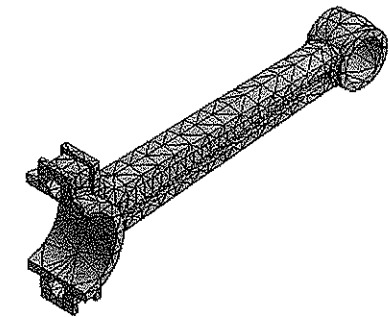

Figure 10-28 The meshed model with default global mesh control settings
10. Right-click on **Mesh** in the Tree Outline and choose the **Generate Mesh**  option from the shortcut menu displayed; the mesh is generated with the default global mesh control settings, as shown in Figure 10-28. Notice that the **Details of "Mesh"** window is displayed below the Tree Outline.